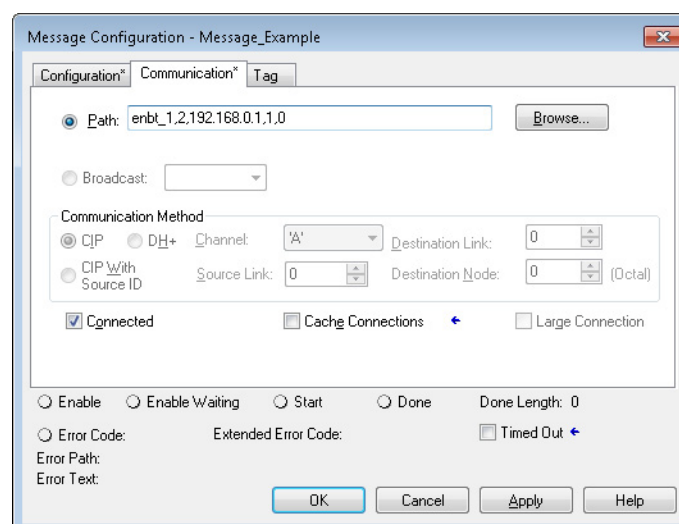

Figure 4-3: Message Communication Setup
After defining the values in the Configuration tab, the values in the Communication tab must be set as shown in Figure 4-3.
1. Make sure that Cache Connections is unchecked as shown in Figure 4-3.